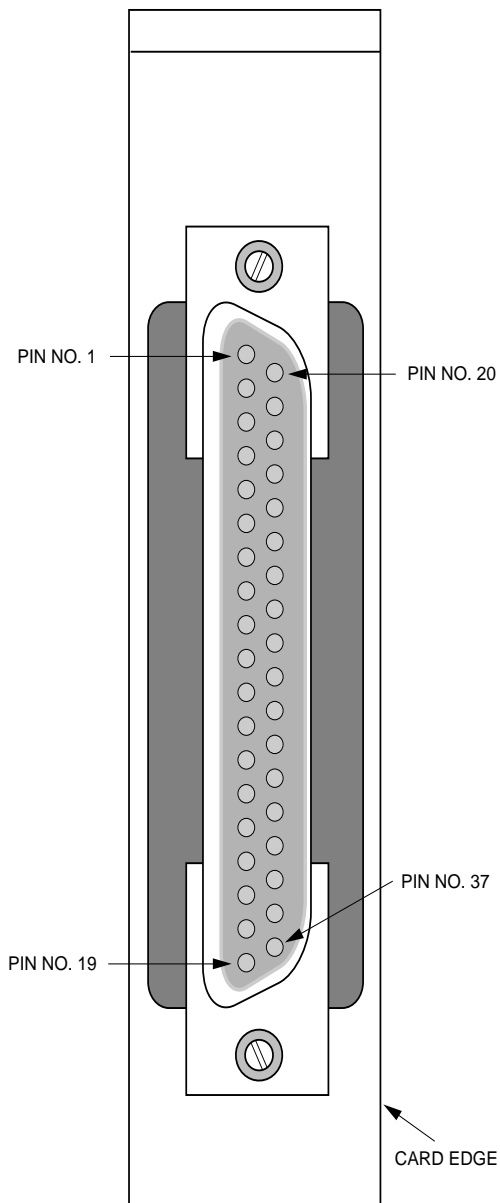

Figure 2-3 P1 Connector
3. Write \$0800 to all eight SRAM locations representing the eight (8) outputs. Then write zero to the relative address of the SRAM location corresponding to the channel currently being calibrated (see Table 3-1). For CH0 the relative address is \$10.
4. Locate the offset adjustment potentiometer corresponding to the channel being calibrated as indicated in Table 2-2 on page 35 and Figure 2-3 on page 50. Adjust this potentiometer for a DMM reading of 4.000 ± 0.001 mA.
P1 is a 37-pin D-Shell Subminiature Connector. Figure 2-3 on page 50 provides a view of the P1 connector, Table 2-3 on page 50 details the connector pinout assignments.